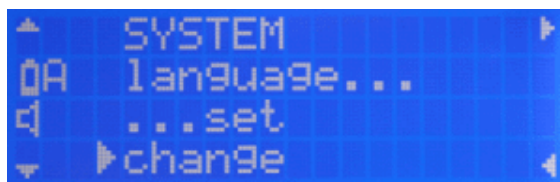

Figure 32: Main menu SYSTEM, submenu language set
- Switch to submenu language set by pressing button 2 or 4 several times. Move the cursor to line 4 on the display by pressing button 3 (Figure 32).